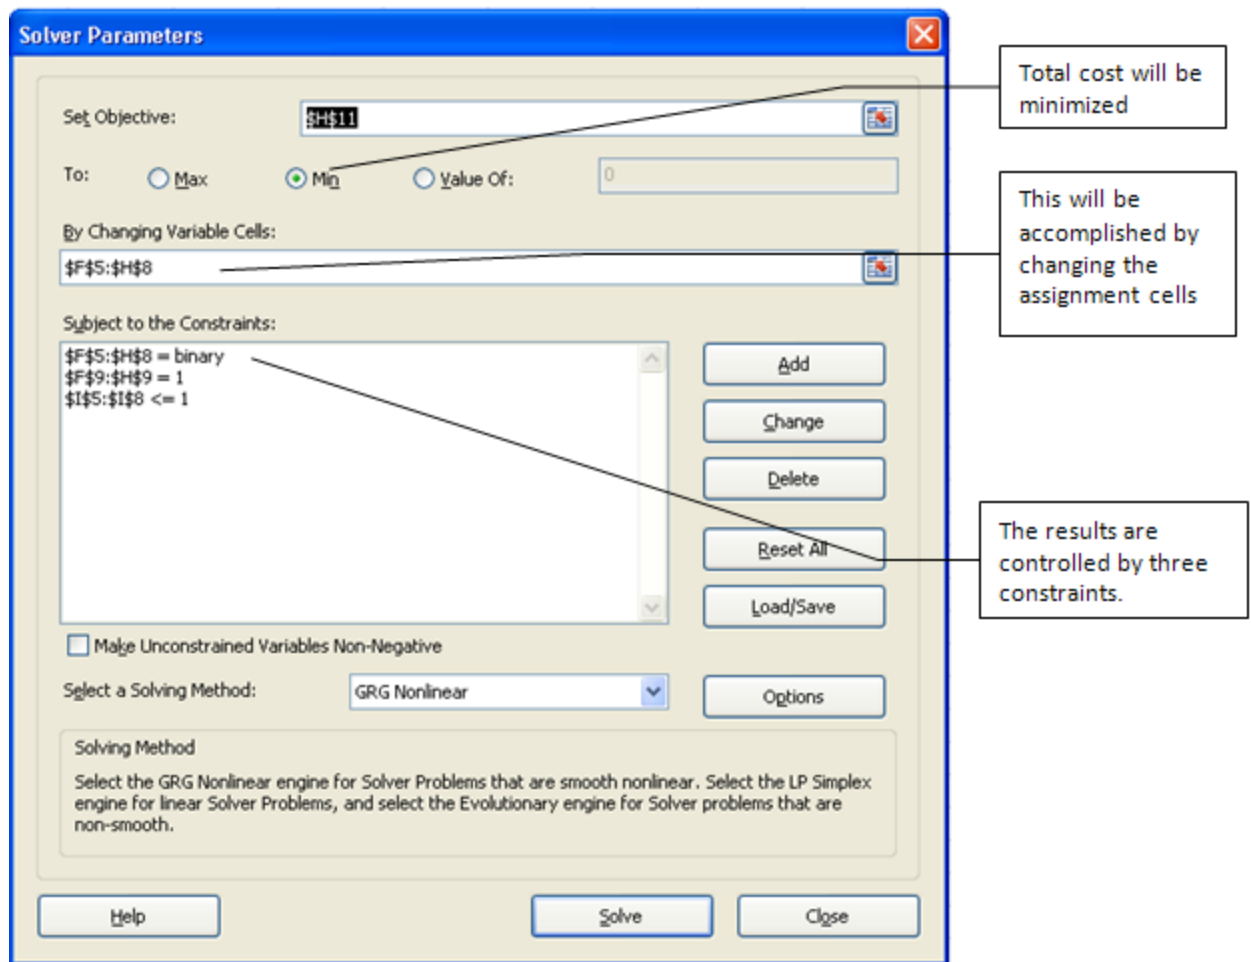

Figure 11.26. Target cell, changing cells, and constraints identified in Solver.
20. Click OK and compare your Solver Parameters dialog box with Figure 11.26.